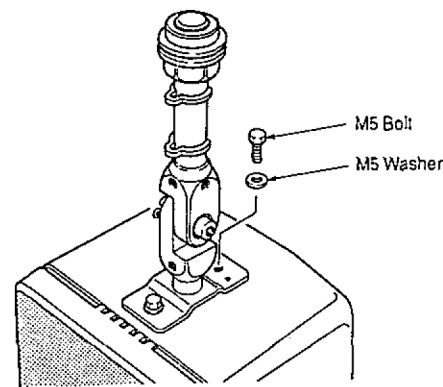

Figure 3
- For speaker enclosures matched for the speaker-side bracket, use the M5 bolts (2) and washers (2) to securely attach the speaker to the bracket. (Figure 3)